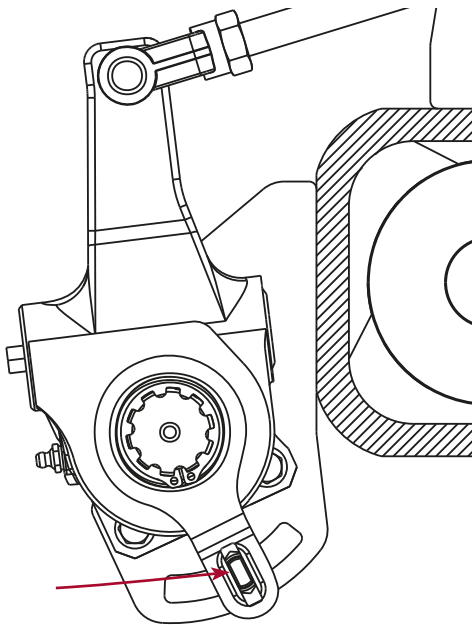

Figure 96: Anchor Stud Installation
10. Insert anchor stud into slack adjuster arm and then into anchor bracket. Refer to Figure 96.